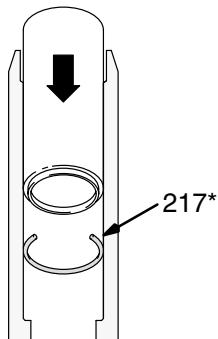

Fig. 30 02573
8. Place a o-ring (217\*) in the cylinder. Slide the sleeve in to the cylinder to seat the o-ring. See Fig. 30. Remove the sleeve.